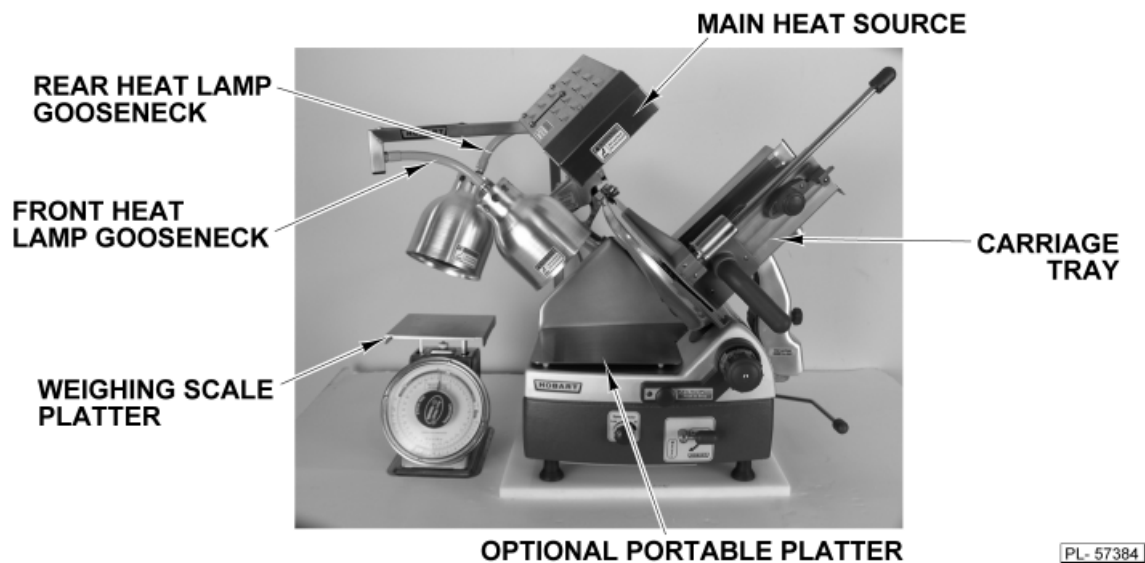

Fig. 4
1. Place Optional Portable Platter on the slicer (Fig. 4).
2. The Main Heat Source is fixed in position over the slicer Carriage Tray (Fig. 4). No adjustment is necessary.
3. Adjust the Front Heat Lamp Gooseneck (Fig. 4) at approximately a 45 degree angle to "shine" on the optional portable platter. Allow enough clearance to be able to reach into this area and remove the sliced beef without contacting the Heat Lamp housing.
4. Adjust the Rear Heat Lamp Gooseneck (Fig. 4) at approximately a 45 degree angle to "shine" on the Weighing Scale Platter, again allowing enough room to work without contacting the Heat Lamp housing.